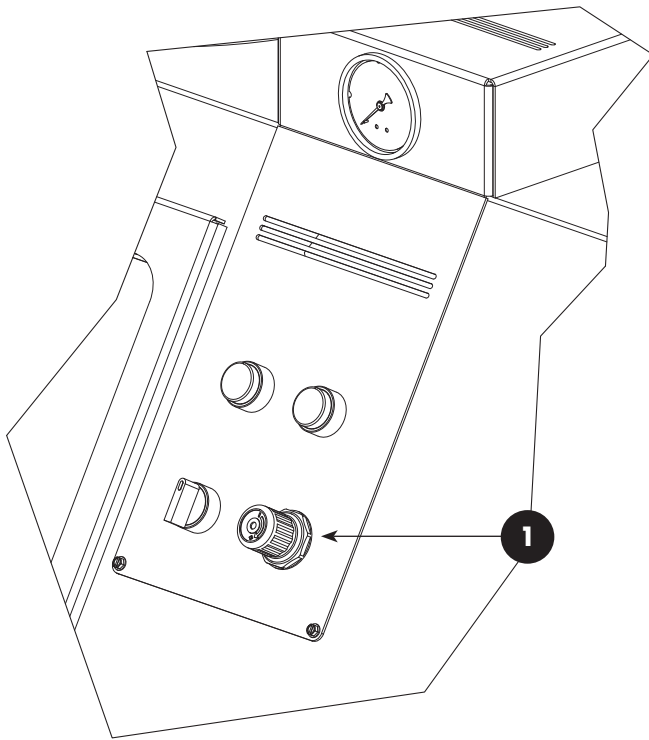

**FIGURE 5:** (1) Adjusting Knob (Pull knob out to unlock and adjust pressure. Push knob in to lock pressure.)
### 4.1 | Blasting Pressure (pilot regulator) – Figure 5
**4.1.2 |** Pressure registers on the gauge only while blasting. To adjust pressure, unlock the regulator knob by pulling it out, as shown in **Figure 5**. Turn the knob clockwise to increase pressure or counterclockwise to decrease pressure. Once operating pressure is set, push the knob to lock it and maintain the setting.